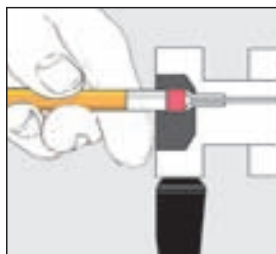

Figure 1 To reform the needle seal, push the eraser end of a pencil against the needle port
1. If fluid leaks out of the needle port only while loading the loop (i.e., while pushing down on the plunger of the syringe), the problem is most likely that the needle seal or the needle port fitting in the loop filler port is not gripping the syringe needle tightly enough. Tighten the needle seal grip by pushing with the eraser end of the pencil on the needle port (See Figure 1). The tightening reduces the hole diameter of the needle seal and port fitting.